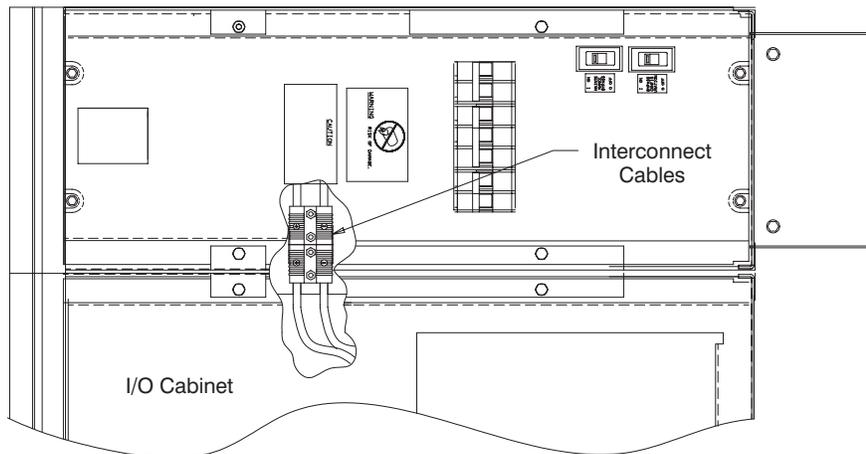

Figure 31. Connecting the Battery Cables – UPS and I/O Cabinets (Top View)
16. Connect the UPS to the first battery cabinet through the top cutout in the I/O cabinet (Figure 31).